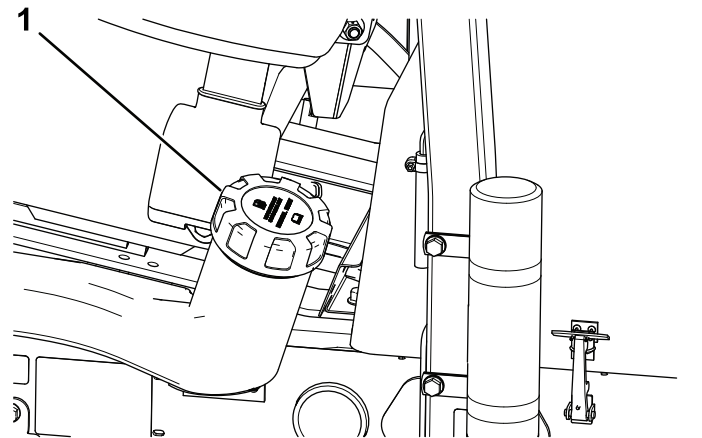

Figure 38
- Clean the area around the fuel-tank cap (Figure 38).